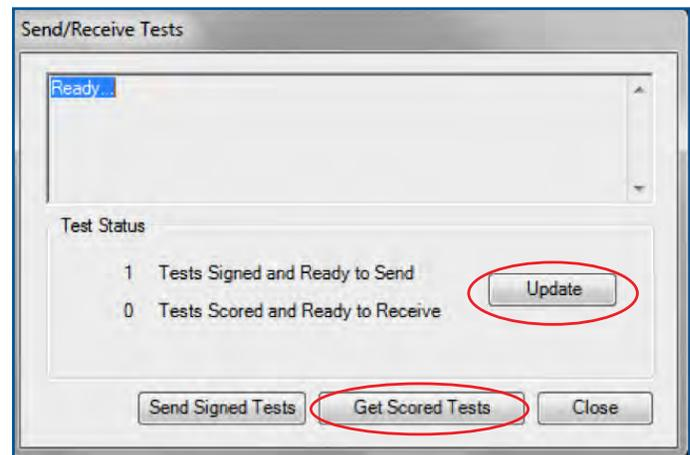

FIGURE 1.50 - Send/Receive Tests Window - “Update” and “Get Scored Tests” Buttons
2. Click “Update” and then “Get Scored Tests” (Figure 1.50).